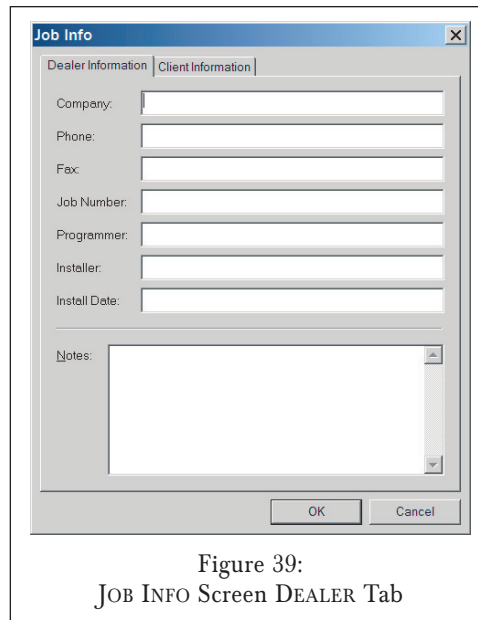

Figure 39:
- The DEALER tab (Figure 39) allows you to record information about the particular job, including system design notes, firmware upgrades, etc. This information is not transferred to the DAB1 — it is saved only in the system program file in your computer.